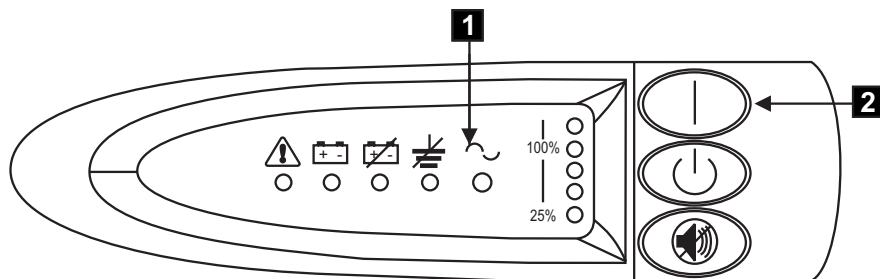

Figure 213. Power switch and indicators of the 2145 UPS
10. All the front panel indicators (see Figure 213) flash for a short time while the 2145 UPS runs a self test. When the test is complete, the mode indicator flashes to show that the 2145 UPS is in standby mode.